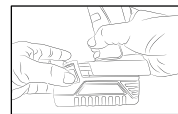

Fig. 1
3. To remove battery pack, press the battery clip, and pull out. To install the battery pack, align the tongue on the battery pack with the groove in the housing and slip it into place. Always insert it all the way until it locks in place with a little click. If not, it may accidentally fall out of the tool, causing injury to you or someone around you. (Fig. 1)